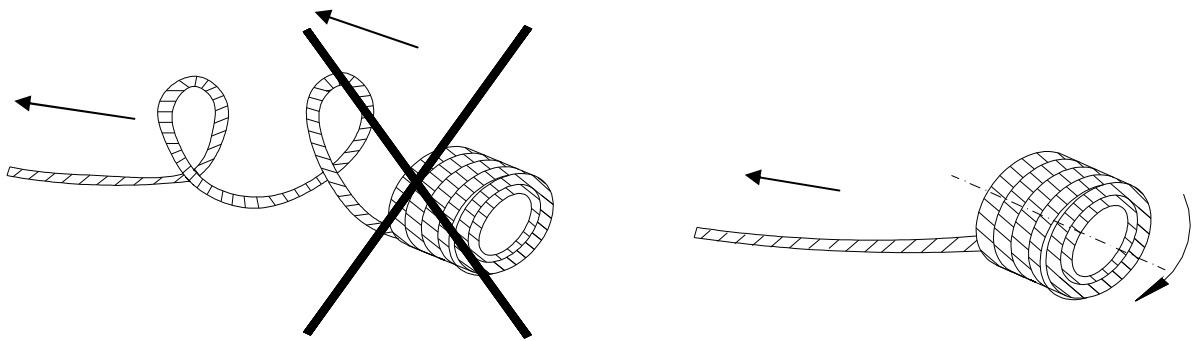

Fig. 2-1
- 1) Completely unwind the wire rope on the clean ground and avoid any twist (see Fig. 2-1). If it is not possible to unwind the wire rope completely, unwind it in large loops. In this way it can avoid danger during rewinding the wire rope onto the drum.